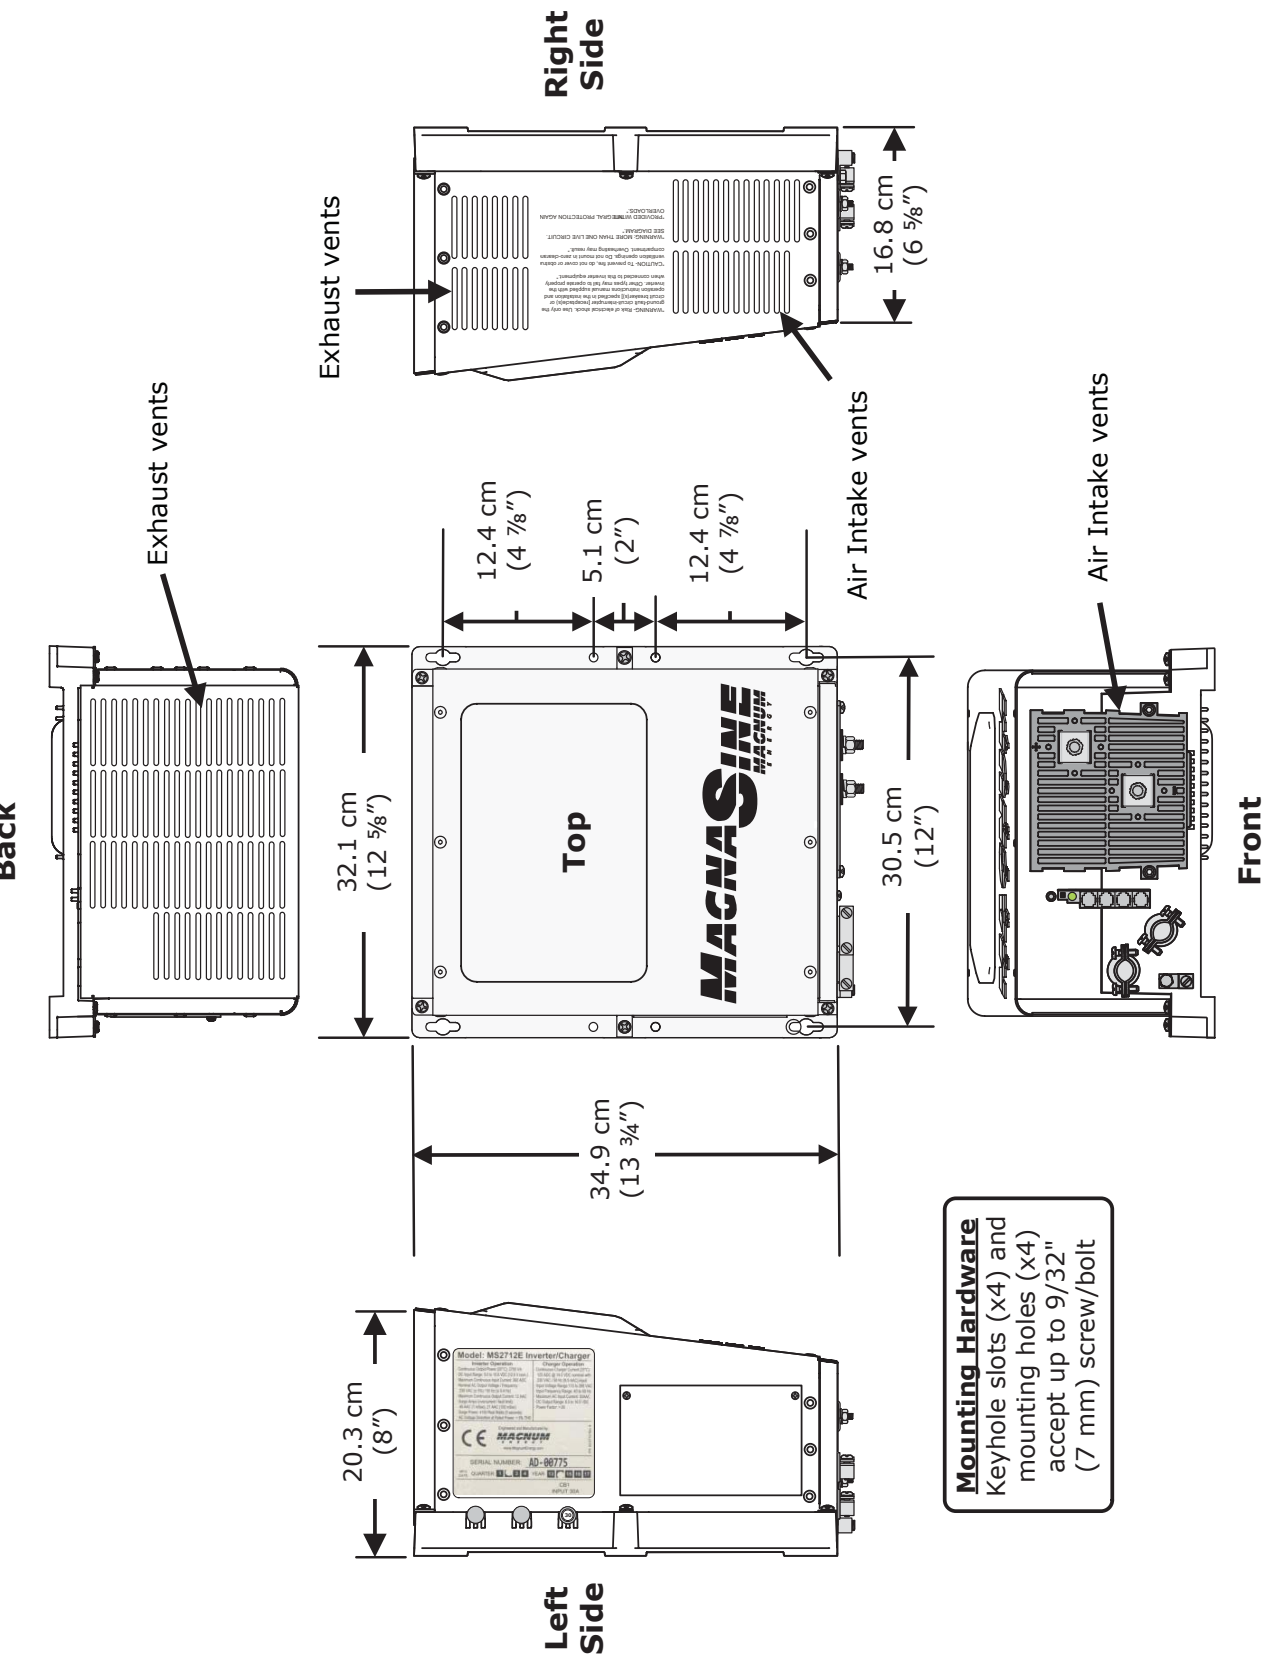

Figure 2-3, MS-E Series Dimensions and Side Reference
**Accessible** – Do not block access to the inverter’s remote control and accessory ports, as well as the inverter’s controls and status indicator. Also allow enough room to access the AC and DC wiring terminals and connections, as they will need to be checked and tightened periodically. See Figure 2-3 for the MS-E Series’ inverter/charger dimensions.
After determining the mounting position, refer to the physical dimensions as shown in Figure 2-3, or use the base of the inverter as a template to mark your mounting screw locations. After marking the mounting screw locations, mount the unit with appropriate mounting hardware.